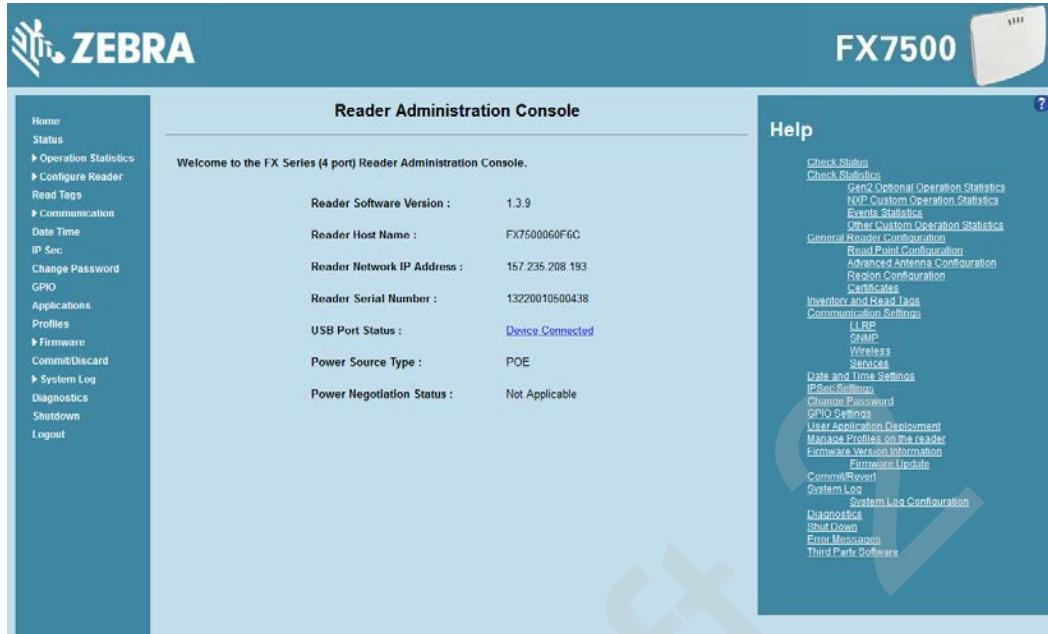

Figure D-2 Wi-Fi Dongle Connected
2. To confirm that the Wi-Fi dongle is detected properly, log in to the reader Administrator Console. On the Home page ensure the **USB Port Status** displays **Device Connected**. Hover over the mouse pointer over this link to display the WiFi dongle information shown in *Figure D-2*.